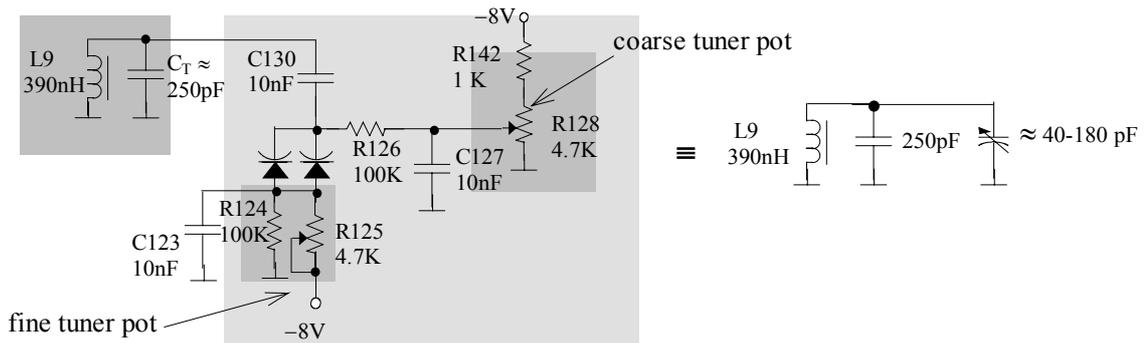

Figure 7.15 Tuner circuit
22. Frequency variation for VFO is maintained by two parallel varactors in a single case, KV1360NT. The d.c. reverse bias voltage is adjusted appropriately to change the total capacitance of two diodes, which are connected in parallel with C130 through a large (d.c. blocking) capacitor C130. The varactor circuit of VFO is shown in Figure 7.15. The only function of C130 is to isolate the d.c. bias voltage of varactor diodes from the tank circuit. Calculate the reactance of C130 at 16 MHz. Can this reactance be ignored when compared with the reactance of varactor diode?